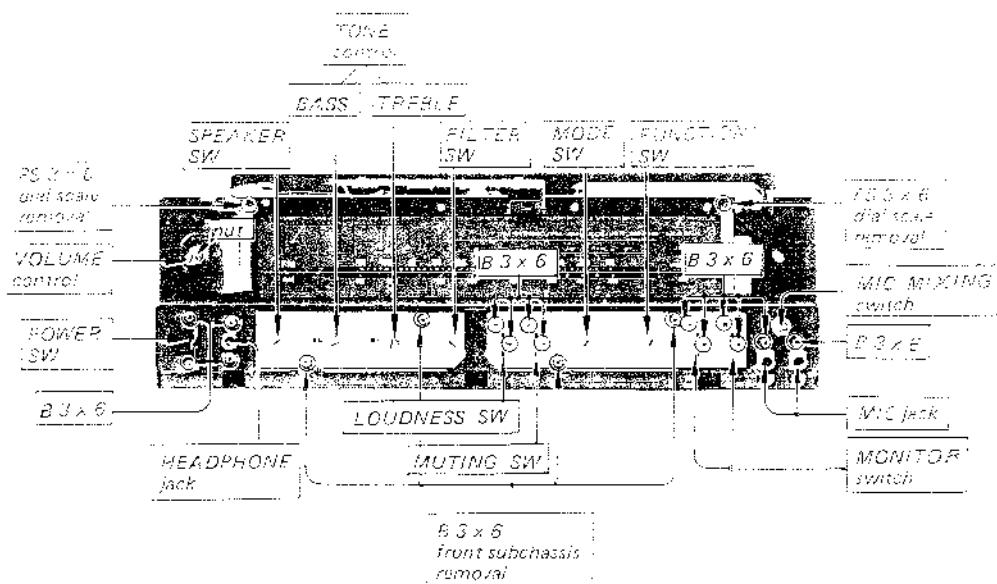

Fig. 2-7. Control, jack and switch replacement (?)
3. Remove the nut securing the VOLUME control to the front subchassis shown in Fig. 2-7.
1. Remove two screws at the nut securing the defective switch or jack to front subchassis as shown in Fig. 2-7.